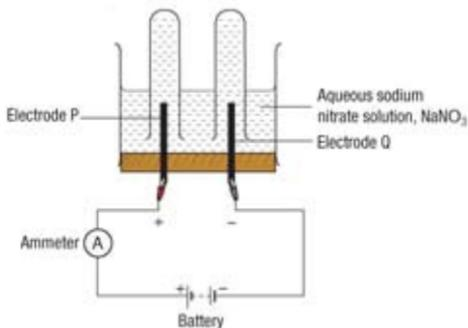

Figure 2
2. Figure 2 shows an apparatus set-up to study the electrolysis of aqueous sodium nitrate solution,  $\text{NaNO}_3$ , using carbon electrodes labelled P and Q.